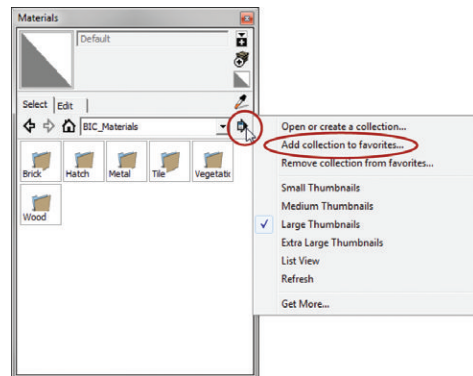

Figure 7.5 To manage material collections and favorites, use the Details menu in the Materials browser.
1. In the Materials browser, click the Details menu and choose Add Collection to Favorites (Figure 7.5).